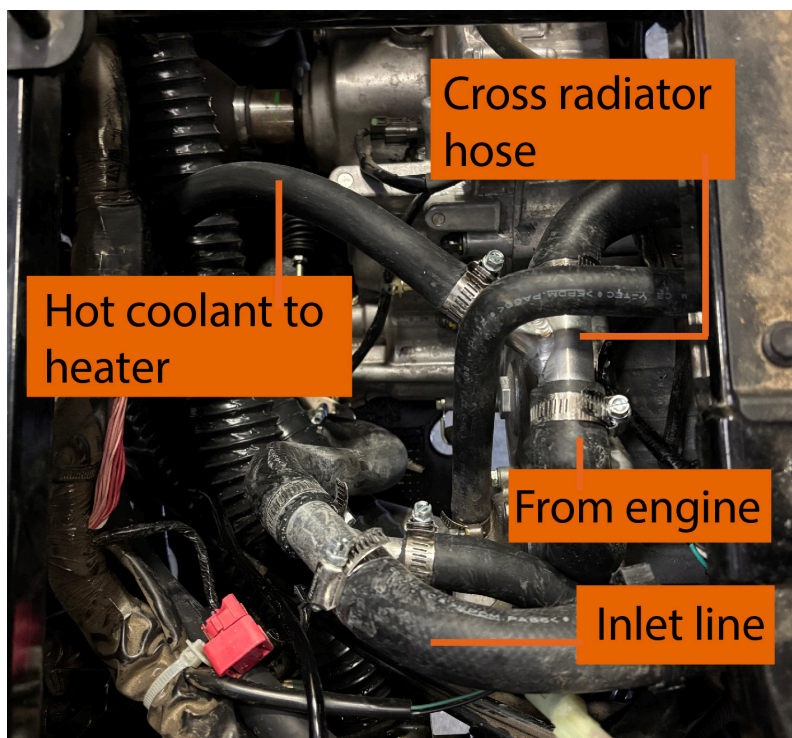

FIGURE 13
35. Locate the inlet line to the radiator. FIGURE 13
39. Locate cross radiator hose on the engine. FIGURE 13
40. Clamp and cut the line, insert the Y with it facing the passenger side and secure it with #16 hose clamps. FIGURE 13